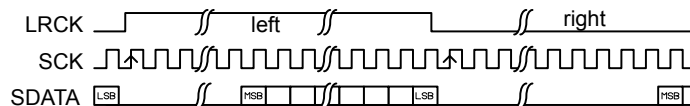

Figure 68: CONFIG.ALIGN set to right justified
- When using right-alignment, each half-frame ends with the LSB of the sample value. This is illustrated in Figure 68: CONFIG.ALIGN set to right justified on page 233.